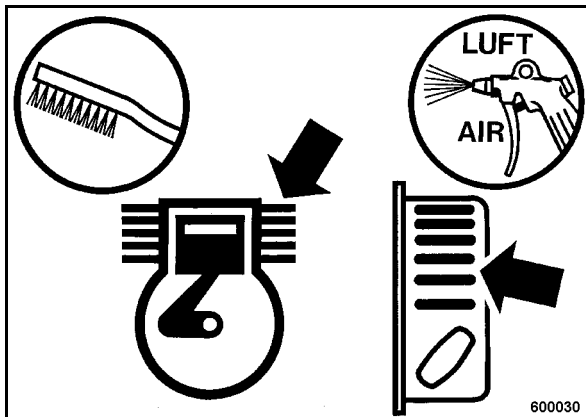

Fig. 48
- Loosen dried on dirt with a suitable brush (Fig. 48) from all cooling fins and cooling air intake openings and blow it off with compressed air .